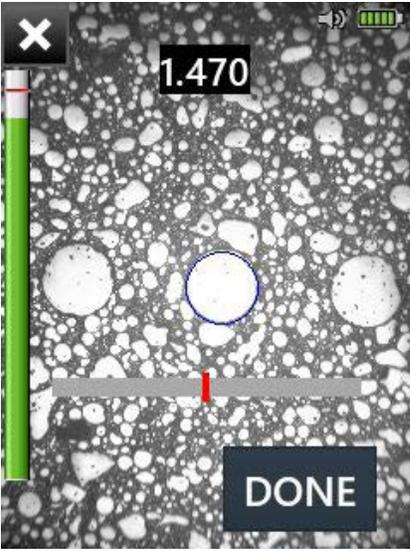

Figure 6
- Step 5. Sidewinder will locate a fiber in the array and place a blue circle around its circumference (see Figure 6).